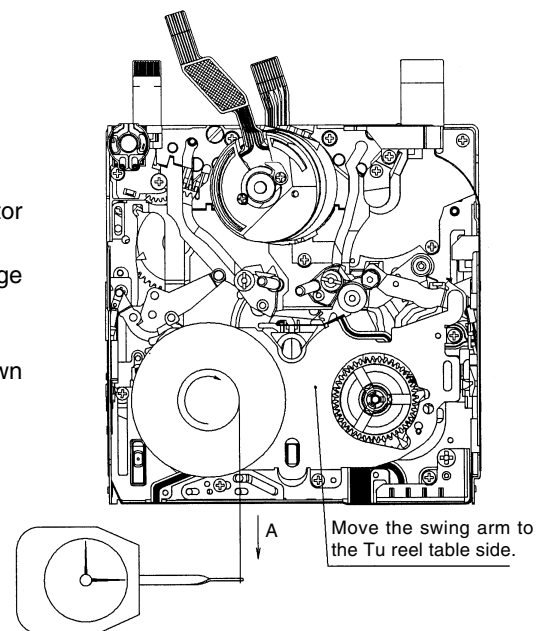

Fig.6 How to measure the S reel table unloaded torque
- (1) Remove the cassette controller assembly, apply 3 to 4V DC to the loading motor and select the L start mode. (See 8-1.)
- (2) Move the swing arm to the Tu reel table side. At this time, take care not to damage the gears etc. (See Fig.6.)
- (3) Set the reel hub for back tension measurement on the S reel table.
- (4) Using the dial tension gauge, pull the thread of the reel hub in the direction shown by Arrow A and check that the tension is within spec.